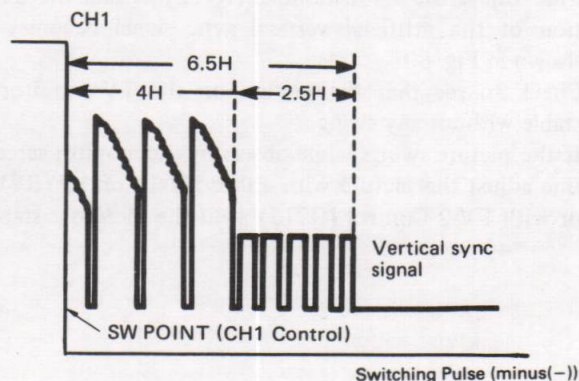

Figure 56
- ⑤ Using the negative slope of the vertical sync signal through the oscilloscope, properly adjust the CH1 Control (within the hybrid IC) so that the output waveform is as shown in Fig. 56.